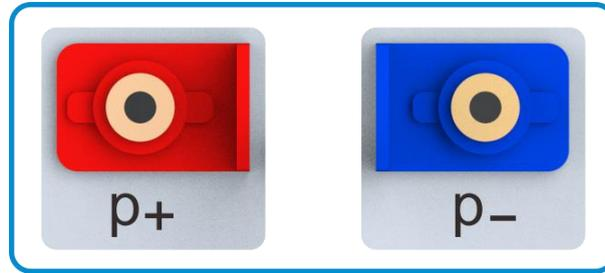

Figure 4-2 Battery terminals
3. Connect the power cable. Connect the positive terminal of the battery to the positive terminal of the power supply system, and the negative terminal of the battery to the negative terminal of the power supply system. Note the color distinction between positive and negative polarity of the input and output terminals, as shown in Figure 4-2.